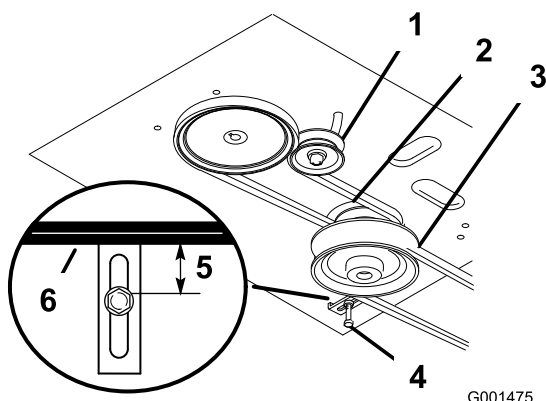

Figure 40
4. Remove the mower belt; refer to Replacing the Mower Belt (Figure 40).
5. Loosen the pivot bolt enough to slide the idler pulley in the slot and remove the traction belt from the engine and the drive pulleys (Figure 40).
6. Install the new drive belt around the engine and the drive pulleys (Figure 40).
7. Slide the idler pulley in the engine frame to tension the traction belt (Figure 40).
8. Install the mower belt (Figure 40).
9. Check the belt guide under the engine frame for the proper adjustment (Figure 40).